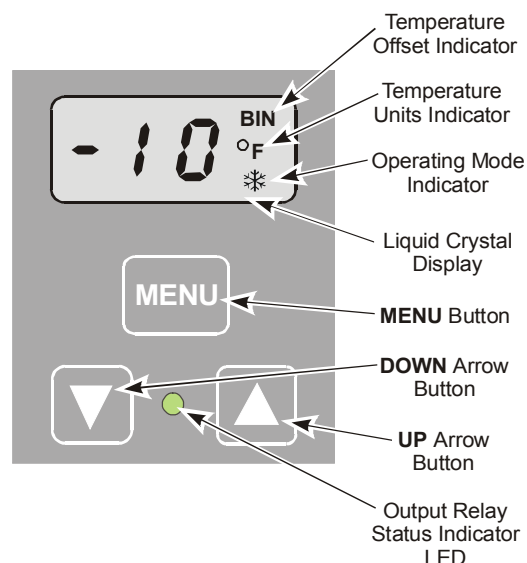

Figure 6: Liquid Crystal Display, Touchpad, and LED Indicator
Temperature Offset (OFS) establishes a set secondary **Setpoint** and **Differential** values that may be invoked to control an application when a circuit is closed between the binary input (**BIN**) and common (**COM**) terminals (and **BIN** appears on the display). See Figure 6. Offset range is 0 to 50F° or C° (in 1-degree increments). A typical application might use a switching time clock to invoke night-setback temperature settings.
2. Press Up or Down (arrows) repeatedly until the desired function is displayed. (See Figure 6.)